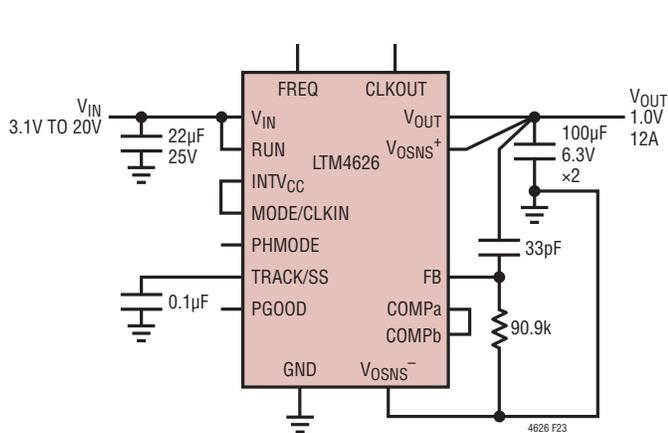

Figure 23. 3.1VIN to 20VIN, 1V Output at 12A Design
**Table 7. Output Voltage Response vs Component Matrix (Refer to Figure 23)**